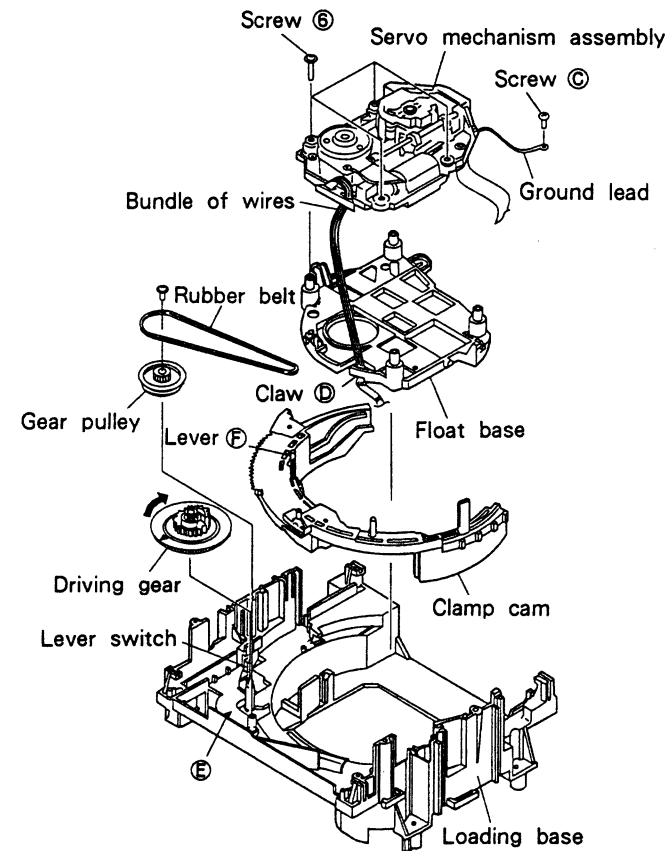

Fig. 2 - 2.
2.3 REMOVING THE FLOAT BASE (See Fig. 2 - 2.)
- ① Remove the servo mechanism assembly. (See 2.2.)
- ② Rotate the driving gear in the clockwise direction fully. The clamp cam will rotate in the counterclockwise direction, and the float base will rise.
- ③ After removing the bundle of wires from claw (D) of the float base, remove the float base.